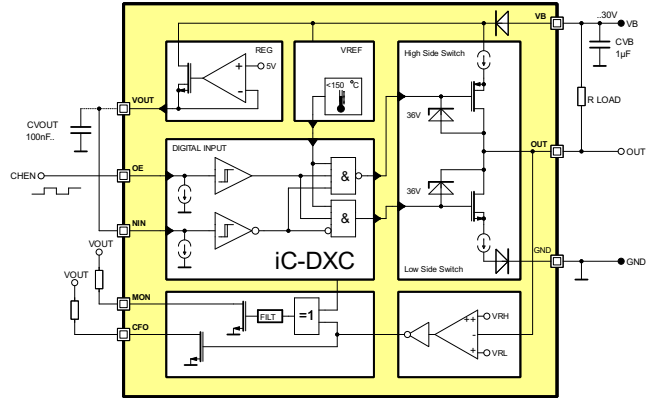
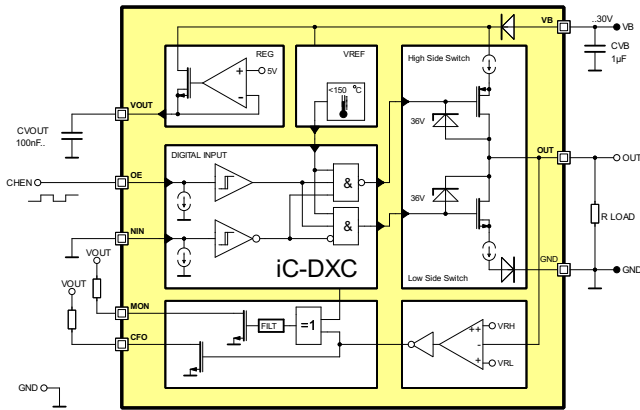
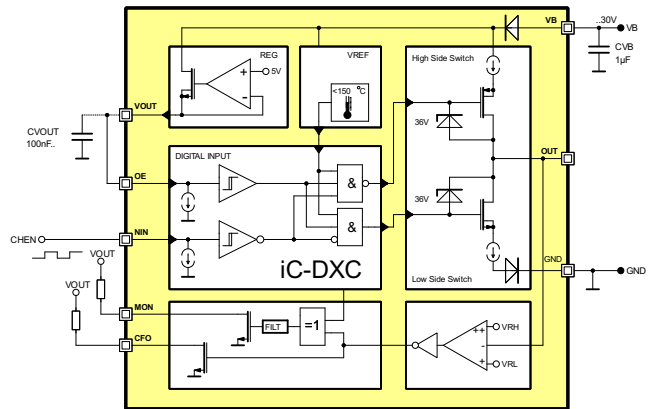

Figure 5: Configuration as Low-Side (NPN-Switch)
Figure 4: Configuration as High-Side (PNP-Switch)
Figure 6: Configuration as Pushpull
The iC-DXC can be operated in high-side (PNP), low-side (NPN) and push-pull (PP) switch mode. Figure 4 shows the high-side operation where NIN pin must be kept low and the OE pin controls the switch. Figure 5 shows the low-side operation where NIN pin must be kept high and the OE pin controls the switch. Figure 6 shows the push-pull operation where OE pin must be kept high and the NIN pin controls the switch. If the OUT signal differs from what declared in tables 4, 5 and 6 (due to external forcing) for more than 14 μ s (cf. Electrical Characteristics No. 510), this event will be signalled by a low level at MON output. In case of a short circuit at OUT and resulting temperature shut-down, logic level of MON will be undefined.
Table 5: Output Function table Fig. 5. Low-side mode (NPN-Switch) with external pull-up.
Table 4: Output Function table Fig. 4. High-side mode (PNP-Switch) with external pull-down.
Table 6: Output Function table Fig. 6. Push-Pull mode